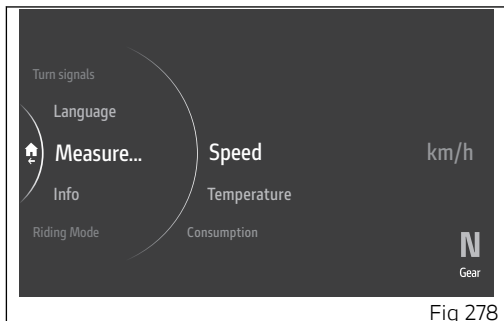

Fig 278
- Select the "Speed" item and press ENTER (Fig 278).